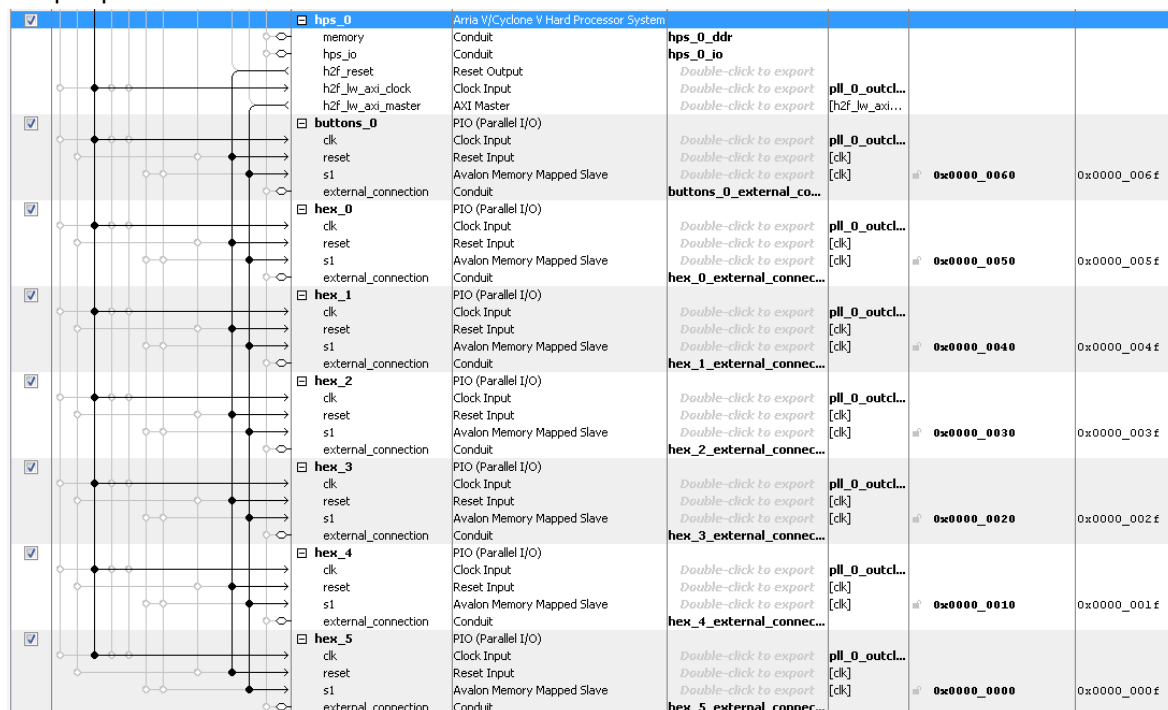

Figure 7-10. Adding Buttons and 7-segment Displays to the Lightweight HPS-to-FPGA Bridge
27. Connect the system as shown in Figure 7-10 below (we don't show the full system to make figures hold on one page). Notice that we use "hps_0.h2f_reset" as the reset signal for the components